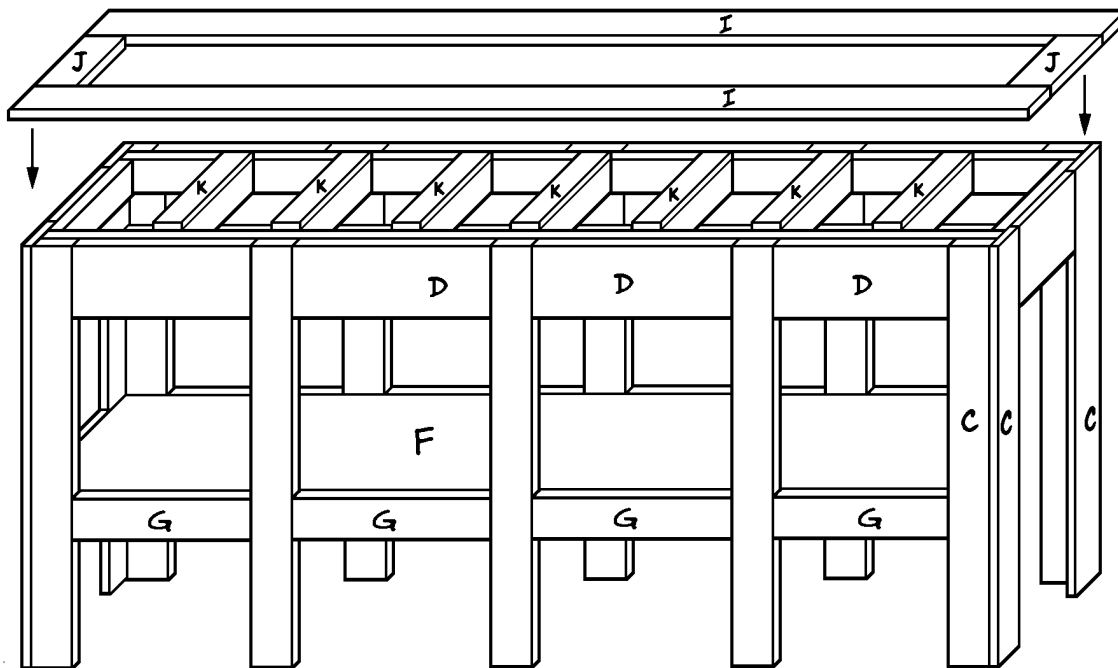

Figure 6
1. Cut two long trim pieces (I) from 1 x 3 pine, each measuring 75" long.
2. Cut two short trim pieces (J) from 1 x 3 pine, each measuring 7-1/4" long.
4. Cut seven 7-1/4"-long inner trim pieces (K) from the 1-1/2"-wide ripped pine.
5. Glue the seven inner trim pieces (K) to the top edges of the seven double-thick short inner frames (B), as shown in *Figure 6*. Insert four 1-1/2" screws through each inner trim piece (K) and into the paired short inner frames (B) beneath.
6. Glue the two short trim pieces (J) and the two long trim pieces (I) to the top edges of the planter, so that their inner edges are flush with the inner faces of the long and short inner frames (A and B). Secure the trim pieces (J and I) with 1-1/2" screws spaced about 6" apart.